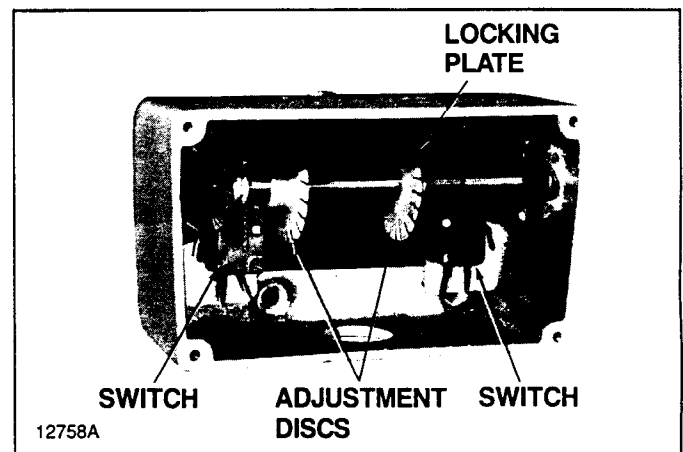

Figure 7-2. Screw-Type Limit Switch Adjustment. (Wires Not Shown For Clarity.)
**7-4. SCREW-TYPE LIMIT SWITCH.** This limit switch has a rotary screw driven by a gear reduction which is coupled to the end of the drum shaft. Adjustment discs operate the contacts of separate switches; one for the hoisting circuit and one for the lowering circuit. The switch assembly must be wired in accordance with the appropriate wiring diagram, which is packaged with hoist. Adjustment of this screw-type limit switch is accomplished as follows: (Refer to Figure 7-2).